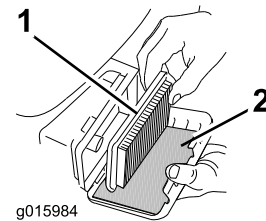

Figure 23
3. Remove the paper air filter and the foam pre-filter (Figure 23).